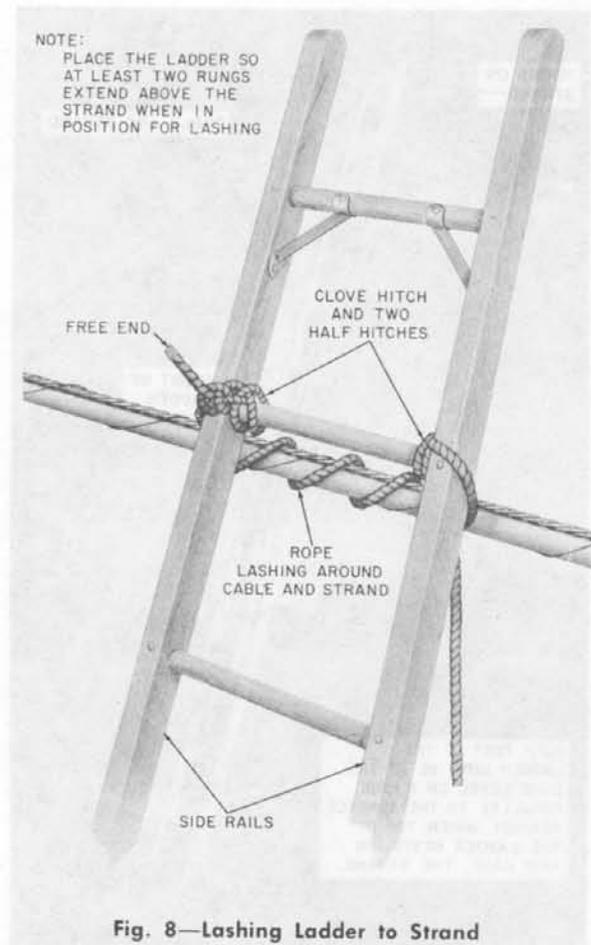

Fig. 8—Lashing Ladder to Strand
**6.05** When a ladder is placed against the strand and heavy work such as pulling or lifting is to be done, lash the ladder to the strand with a short length of rope, as shown in Fig. 8. Where the cable is supported in rings, pass the lashing rope around the strand only; where the cable is lashed, pass the lashing rope around the strand and cable. **Do not move the base of the ladder after the upper end has been secured to the strand.**